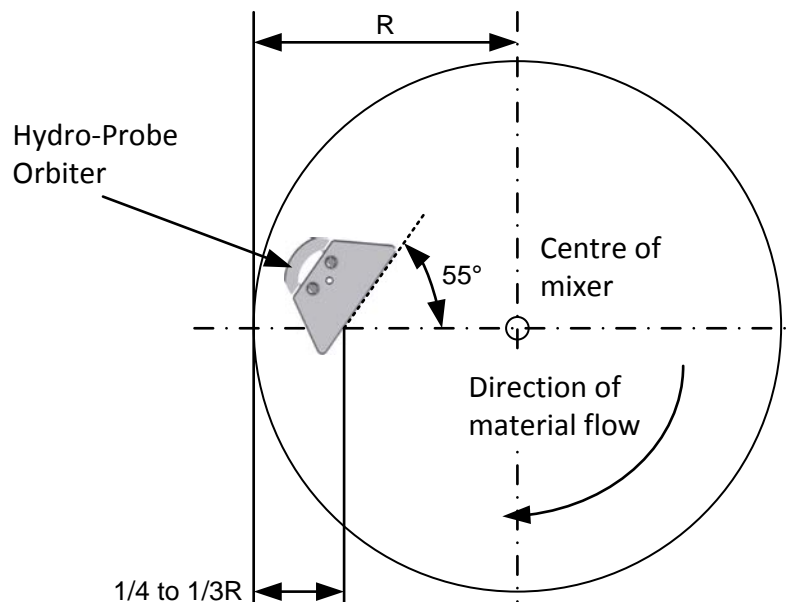
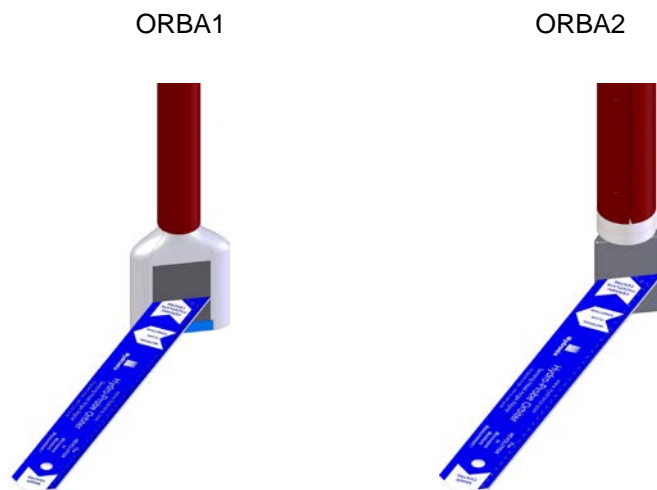

Figure 15: Setting the sensor angle for optimum performance
Figure 16: The Hydronix angle aligner for sensor face alignment
- The sensor should be attached along the scraper blade arm approximately 1/4 to 1/3 of the distance in from the wall of the mixer (see Figure 15). Select a position where the flow of material is the smoothest, and as far as possible free from the turbulence created by the mixer blades. The ceramic faceplate of the Sensing Arm should be angled at 55° to the centre of the mixer, which can be set using the aligner provided (see Figure 16 for further information).
The sensing head should be positioned in an area where the flow of material is the smoothest. Normally this is a quarter or a third of the distance in from the outer edge of the mixer wall. (Figure 15).
- An angle of 55° generally provides good results. Use the angle aligner provided to set the angle (Figure 16).